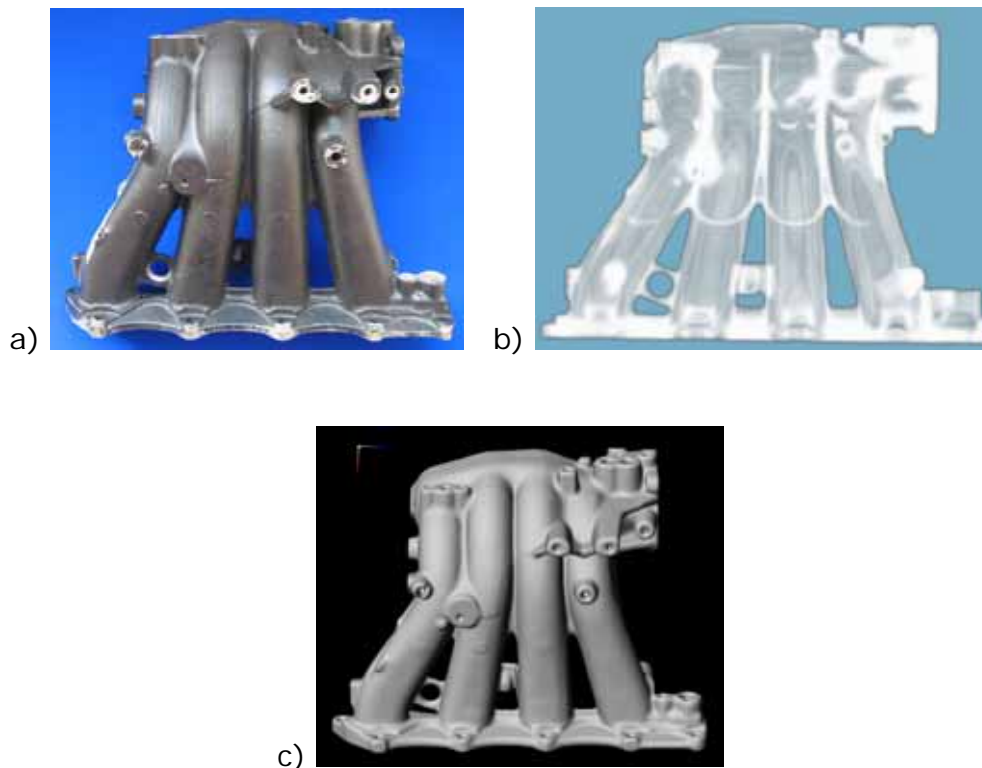

Figure 1: a) Original part, b) CT scan, c) Volume or surface mesh.
The procedure for generating models is very simple and consists of the following steps which are illustrated in Figure 1 for the case of an engine inlet manifold. (1) Obtain a 3D image of part (e.g. from MRI, CT) (2) Import into ScanIP and segment structures of interest (3) Mesh using +ScanFE module and export nodes, elements material properties and contact surfaces directly to LS-DYNA.